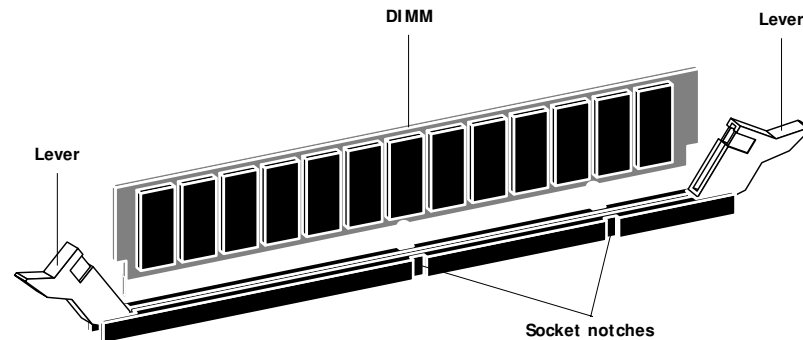

FIGURE 4-20 Releasing a DIMM
1. To release a DIMM, push outward on the levers on each side of the DIMM. (See Figure 4-20.)